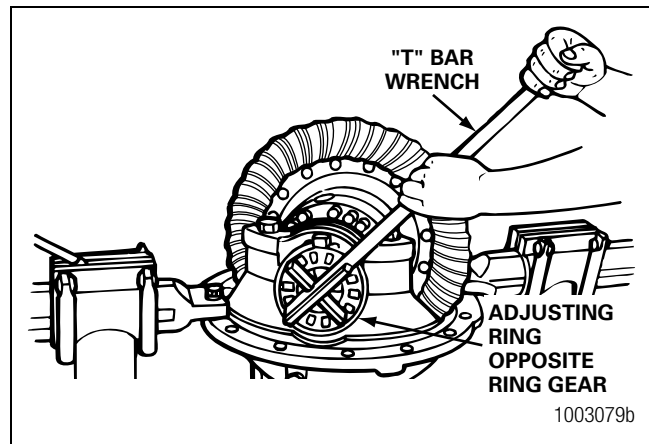

Figure 5.30
2. Use a T-bar wrench to loosen the bearing adjusting ring that's opposite the ring gear. Figure 5.30. The dial indicator will show a small amount of end play.